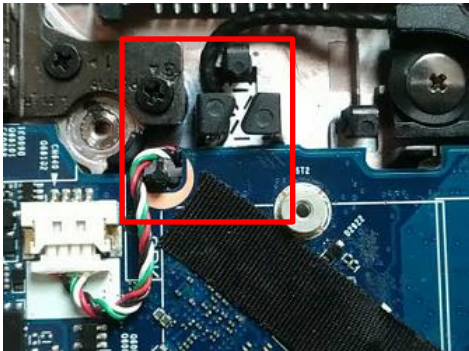

Fig.1
1. Disassemble speaker cable, then remove cable from hook(Fig.1).